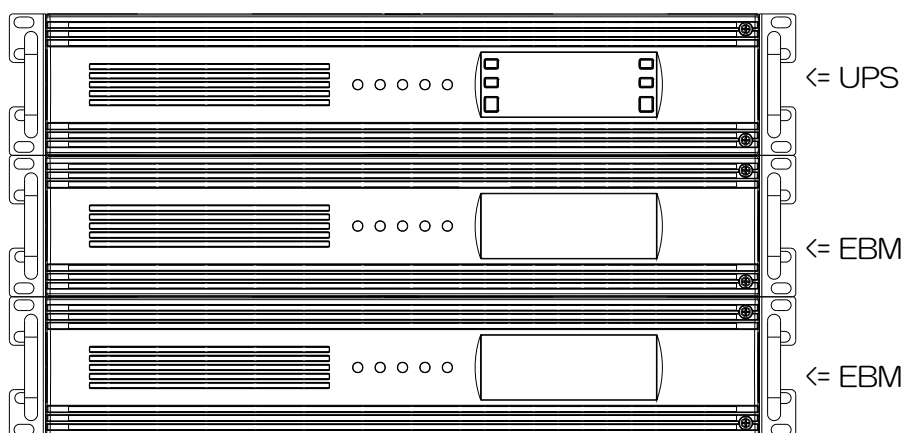

Figure 3-3 Installation of Rackmount (used EBM)
- Install EBM on the the lower of UPS like Figure 3-3. Use the rail for the mount every EBM.